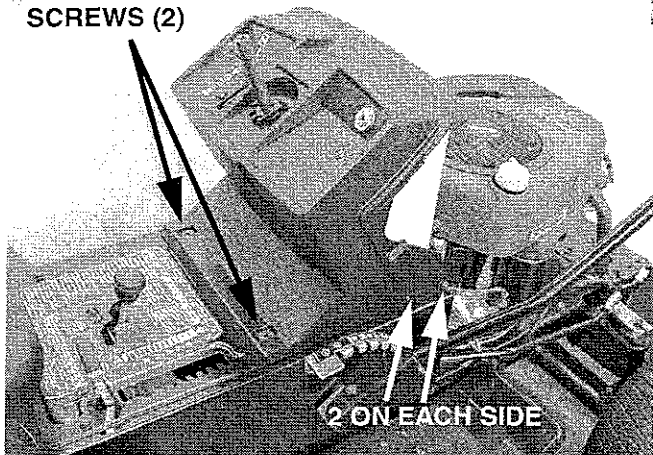

FIGURE 7
15. Using a 3/8" socket, remove the six (6) screws securing the dash panel to the frame. See Figure 7.